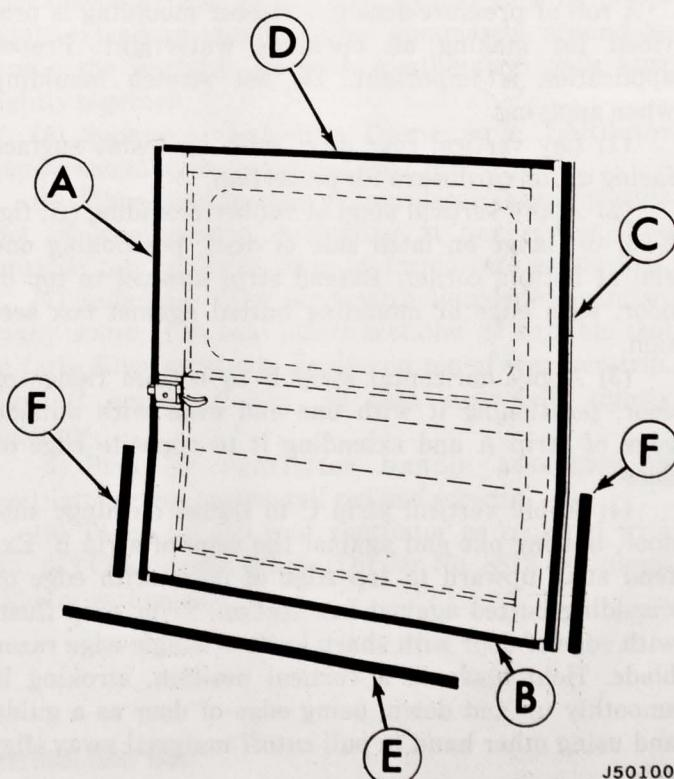

Fig. 2-33 Rubber Moulding Strips Installed
(1) Lay vertical rear door, with its inside surface facing up, on cardboard for protection.
(2) Apply vertical strip of rubber moulding (A, fig. 2-33) to flange on latch side of door, positioning one end at bottom corner. Extend strip upward to top of door, with edge of moulding butted against box section.
(3) Apply horizontal strip B to bottom flange of door, positioning it with one end even with outside edge of strip A and extending it to opposite edge of door.